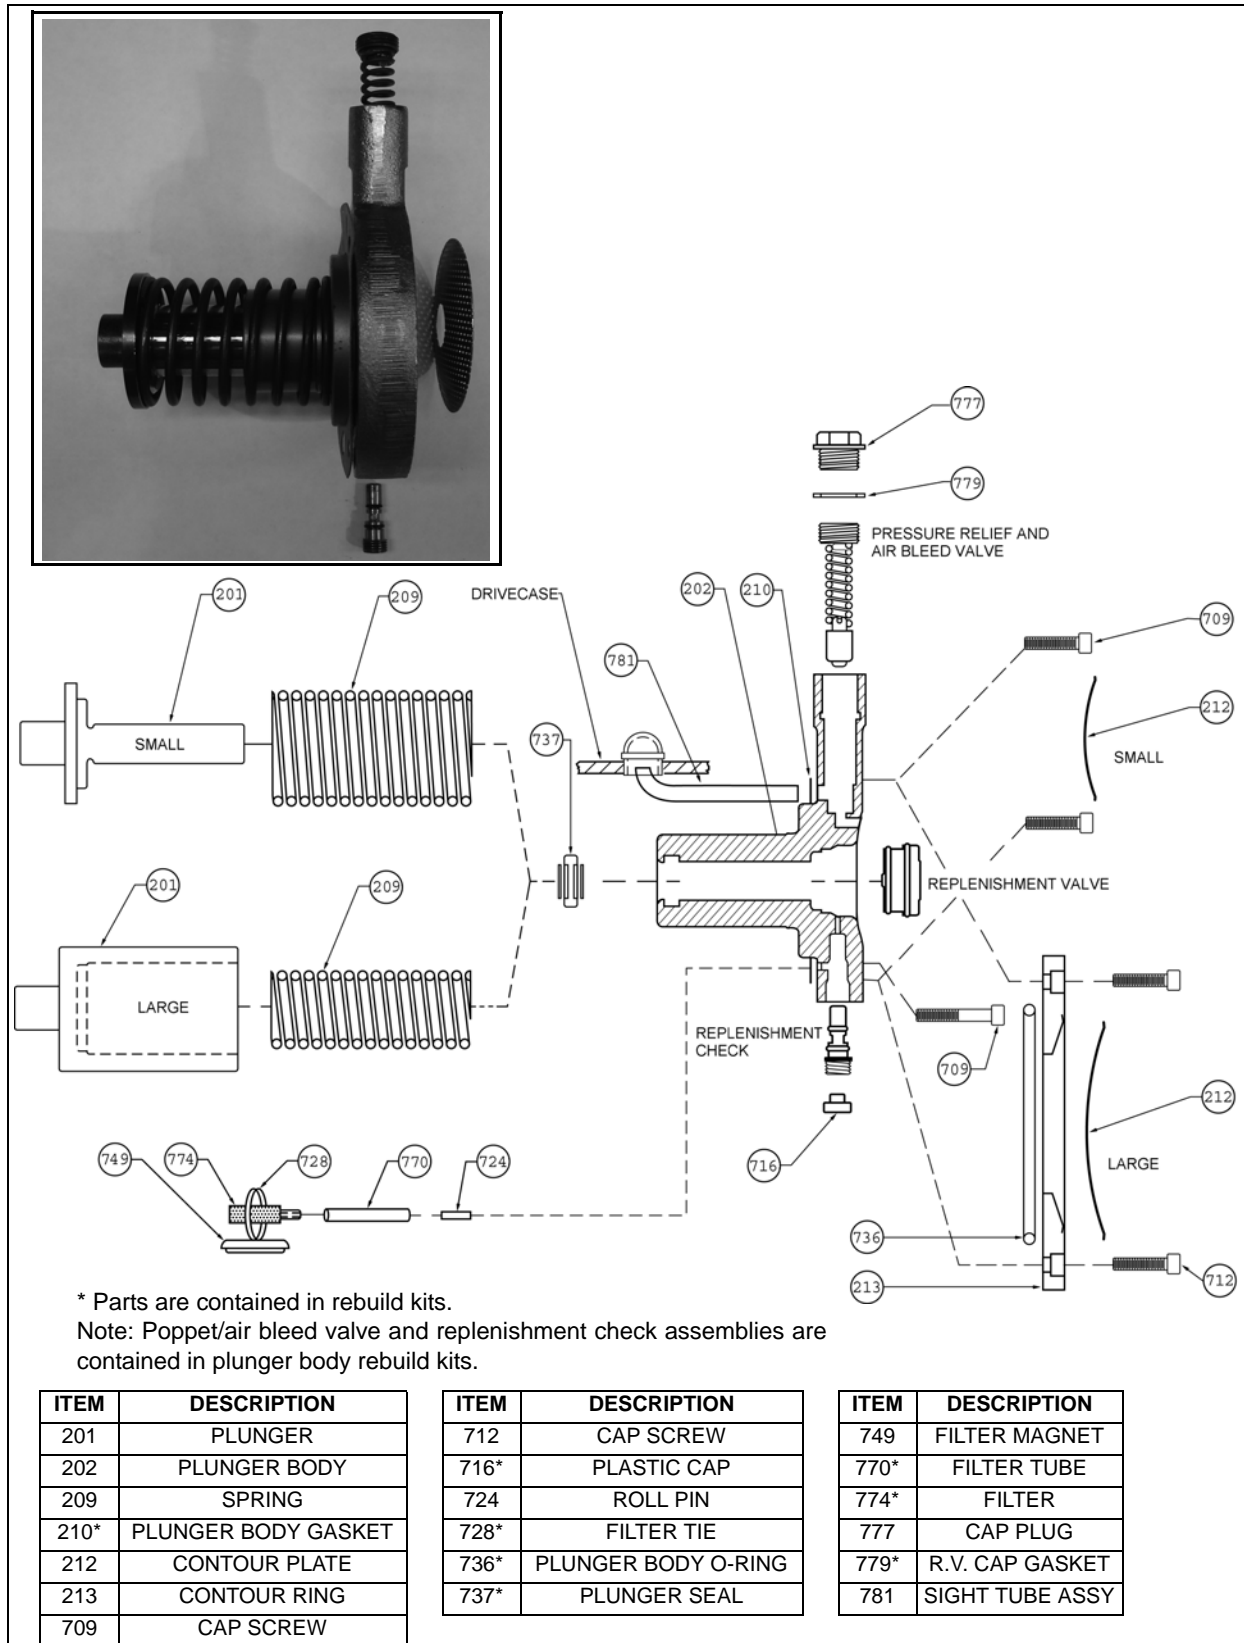
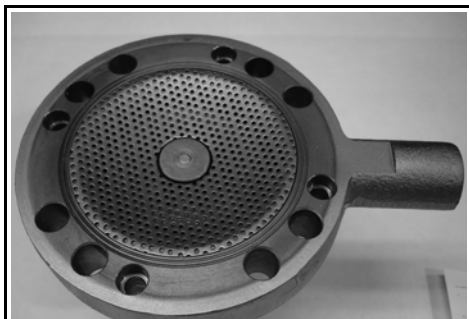

Figure 12. Plunger Body Assembly (Size B and C).
Figure 16C. Plunger With Replenishment Valve and Rear Contour Plate Installed.
3. Check operation of replenishment valve. When valve button is depressed, then released, valve should snap back to forward position (See Fig. 16C). If a problem is noted and further disassembly is required, proceed to Step 4.
The function of the plunger body (Figure 12) is to control the hydraulic system. This is the most intricate portion of the pump and should be carefully serviced in a clean environment.
12. To remove replenishment check, remove protection plug (item 716) and back out of plunger body using a 1/4 Allen Wrench. Note location in Figure 12.
21. To access replenishment valve, remove rear support plate, Item 212 (size B & C only). To remove valve, tap lightly with a soft rod through plunger bore on back side of valve (See Figure 12).
26. To ensure that replenishment valve is installed completely, place rear contour plate Item 212 (Figure 12) onto plunger body. The plate should fit tightly to the body without any rocking action (Figure 16C).
27. The plunger and return spring may now be installed. Lubricate bore and plunger generously. Using an even rotational force on back of plunger, press plunger into bore. On 1-3/4 in. (44.5 mm) plunger, be sure to install spring support ring as shown in Figure 12.
28. Insert filter magnet assembly into drivecase. Ensure tube is securely fastened to pin, Item 724 (Figure 12) and filter. The tube must not come in contact with the eccentric or the plunger return spring.